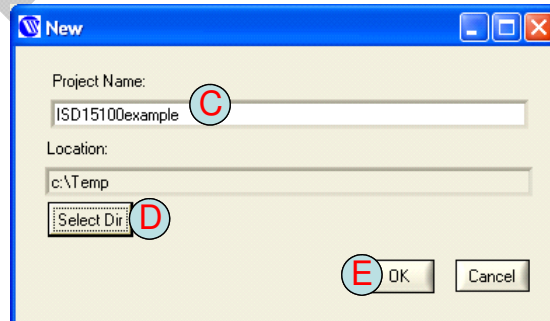

Figure 2-2 Create a New Project
Launch the VPE15100. You shall see your username (A) on the subject bar; your username is part of the project when you create the programming file. In the menu bar, click on 'Project' (B) -> 'New', you shall see a pop-up window as Figure 2-2. Type in the desired project name (C) and assign a project location (D). Click on 'OK' (E), and you shall see the project path shown on the subject bar (F). In the assigned location you shall see that a project folder has been created.